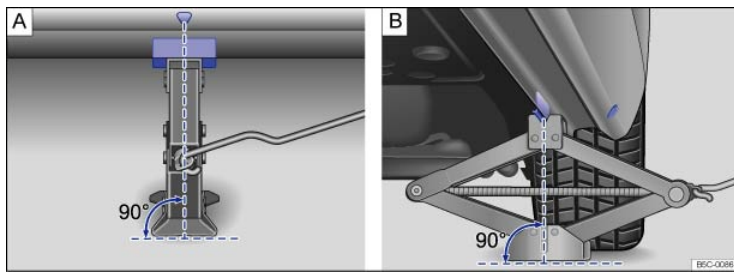

Fig. 230 Jack in position at the left rear lift point.
- Position the jack only at the described vehicle lift points. Before you raise your vehicle, always make sure the jack claw properly grips the vertical rib under the sill so that the jack does not slip off when you are raising the vehicle ⇒ Fig. 230.